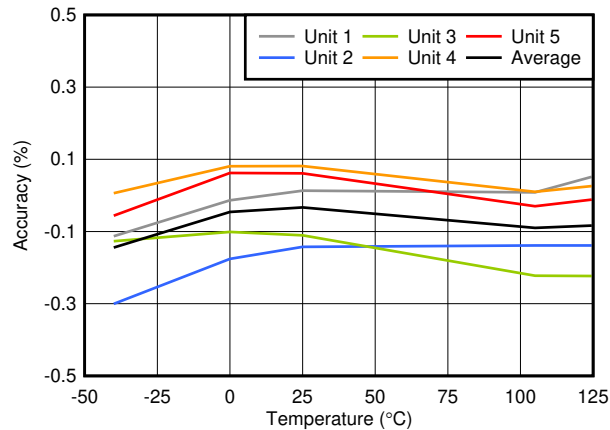

**Figure 6-2. TPS3850 Window Watchdog Timing**
A. See Figure 6-2 for WDI timing requirements.